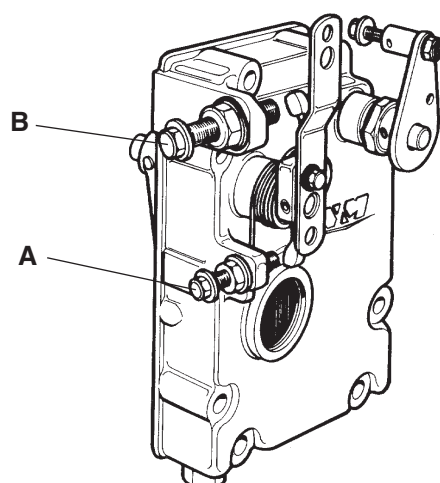

Fig. 6.50
6.36 ADJUSTMENTS (FIG. 6.50 - 6.51)